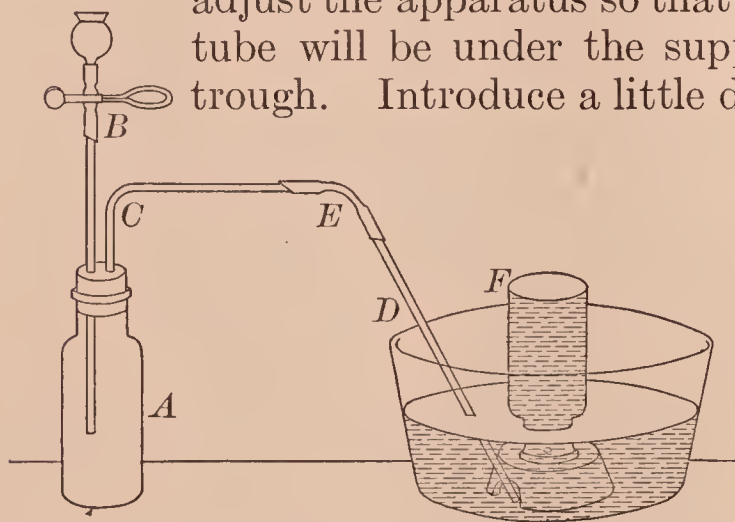

FIG. 57. — Apparatus for preparing hydrogen sulfide
**APPARATUS.** — As in Fig. 57; stoppered bottle. (The apparatus shown in Fig. 14 may be used if the lower end of the thistle tube is kept below the surface of the acid.)
**I. Preparation.** — Construct and arrange the apparatus as shown in Fig. 57. Put 10 gm. of coarsely powdered ferrous sulfide in the bottle *A*, insert the stopper tightly, and adjust the apparatus so that the end of the delivery tube will be under the support of the pneumatic trough. Introduce a little dilute hydrochloric acid